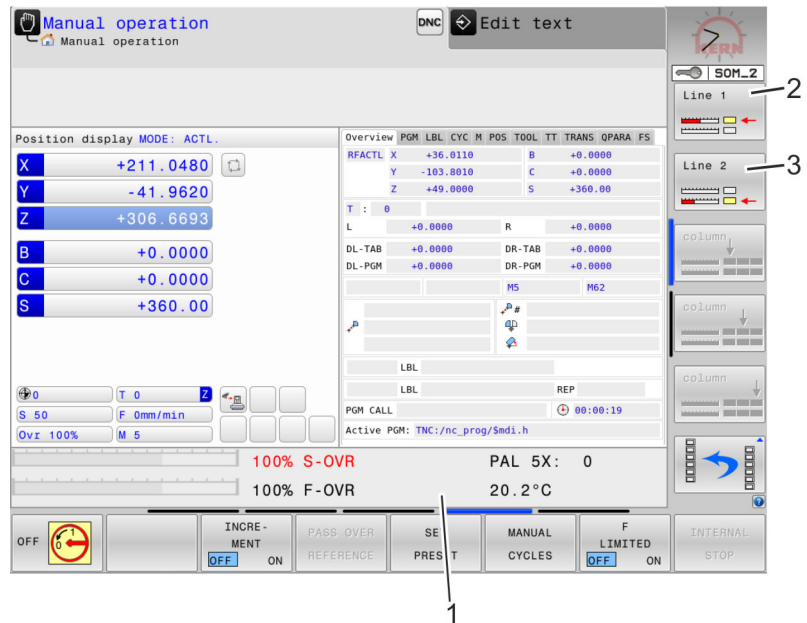

Fig. 74: Start screen (example)
1. Call up the start screen for the control system (Fig. 74).
⇒ You can now adjust the six fields in the lower display area (Fig. 74/1) individually.
2. Press the [Line 1] (Fig. 74/2) or [Line 2] softkey several times (Fig. 74/3) to change the information that is displayed.